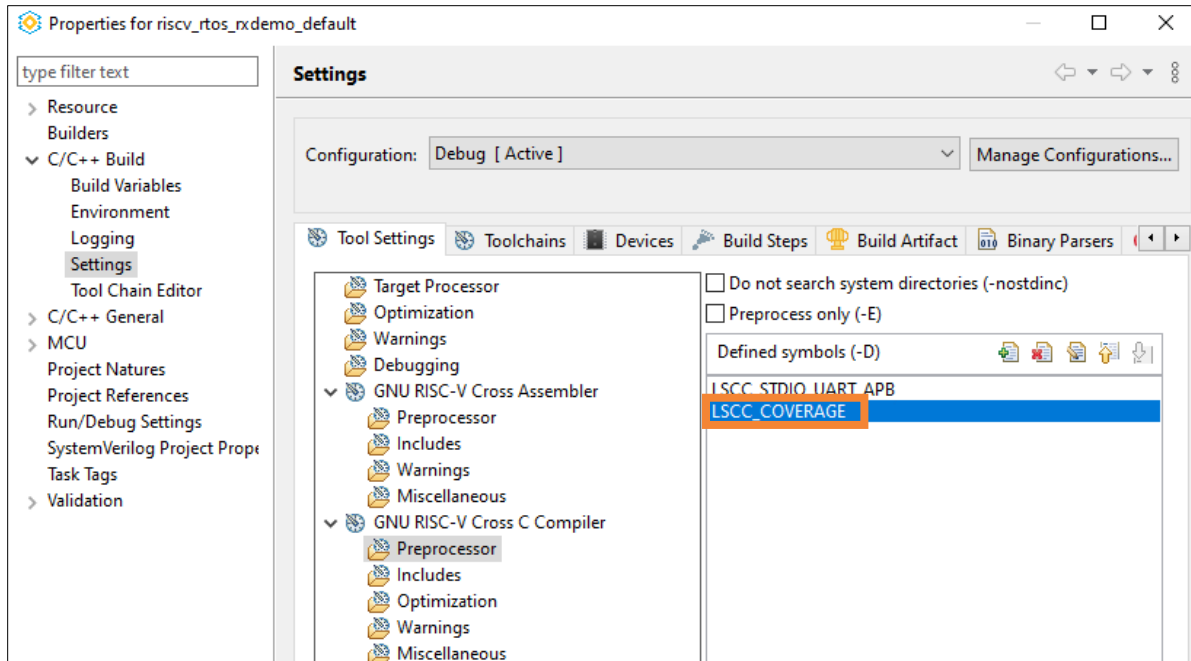

Figure 6.10. LSCC_COVERAGE Symbol
3. Select **GNU RISC-V Cross C Compiler > Preprocessor**. Add the defined symbol, LSCC_COVERAGE (Figure 6.10).